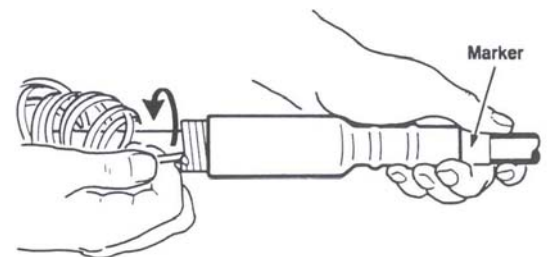

Figure 4
4. Hold PST assembly and cable in proper position in one hand and unwind core in counter-clockwise direction with the other hand (figure 4).